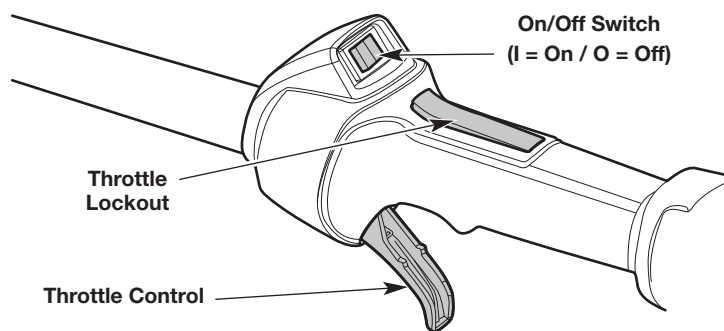

Fig. 7
NOTE: There is no need to turn the unit on. The On/Off switch is in the **On (I)** position at all times (Fig. 7).
NOTE: DO NOT squeeze the throttle control until step 8 (Fig. 7).
8. Press and hold the throttle lockout (Fig. 7). Squeeze the throttle control as needed for operation (Fig. 7).
2. Press and hold the On/Off switch in the **Off (O)** position until the engine comes to a complete stop (Fig. 7).